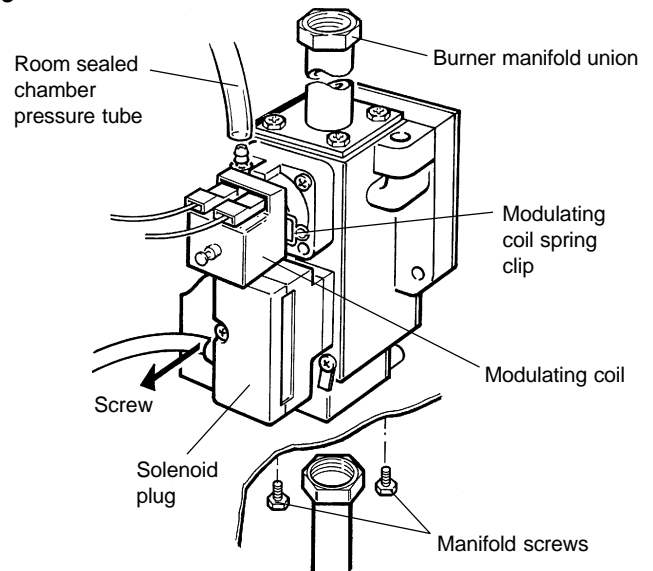

Fig. 25
8.13 GAS VALVE (Alpha 240E and 280E only) - Fig. 25
3. Loosen the one screw (see Fig. 25) securing the solenoid plug and disconnect the plug.